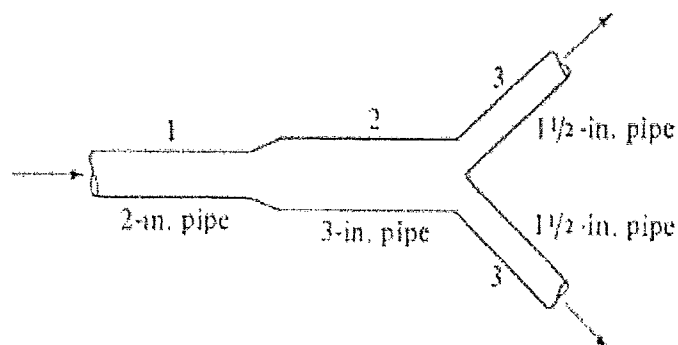

Figure 2 - Piping arrangement for petroleum crude oil
- [c] A petroleum crude oil having a density of 892 kg/m^3 is flowing through the piping arrangement shown in Figure 2 at a total rate of $1.388 \times 10^{-3} \text{ m}^3/\text{s}$ entering pipe 1. The flow divides equally in each of the pipe 3. Given the internal diameter for pipe 1, 2 and 3 are 2.067 in., 3.068 in. and 1.610 in, respectively. Calculate the following in SI units: